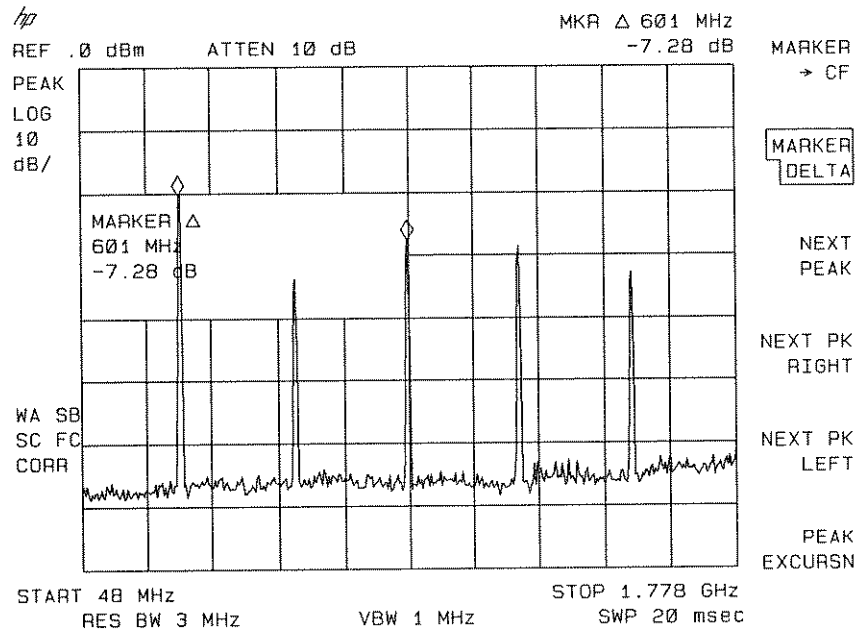

Figure 6-14. Using the Delta Meas Function
5. The **DELTA MEAS** softkey also finds and displays the frequency and amplitude difference between the two highest-amplitude signals. To use this automatic function, first remove the local oscillator (LO) signal from the display by pressing **[FREQUENCY]**, **START FREQ**, and turning the knob until the LO signal at 0 Hz is off the screen. Press **[MEAS/USER]**, **MORE 1 of 2**, **DELTA MEAS**. See Figure 6-14.